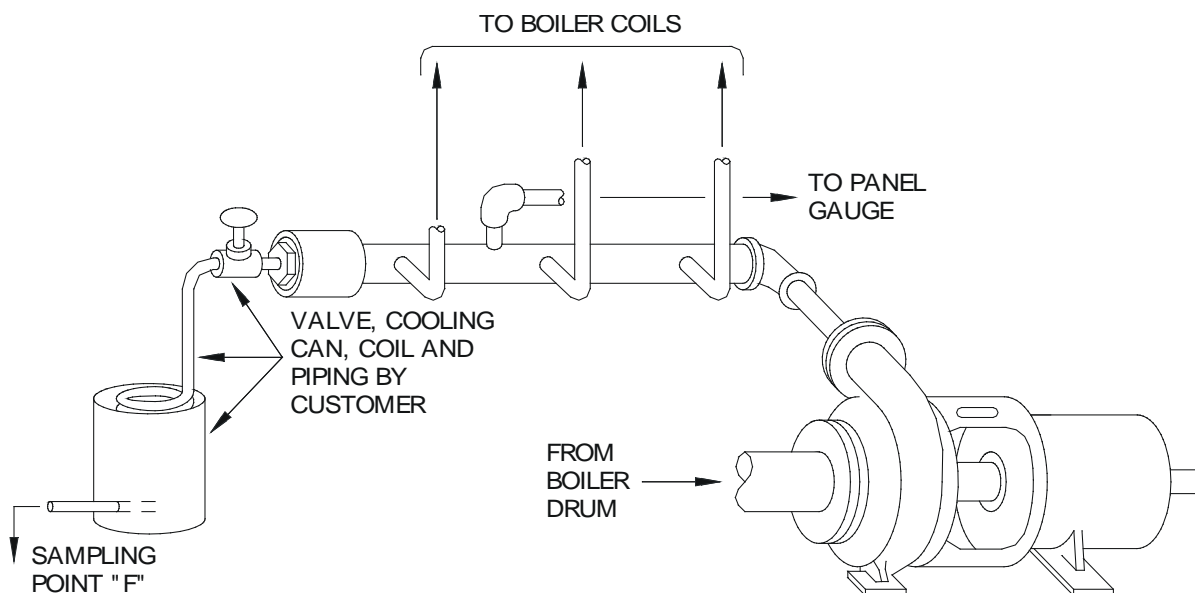

Figure 18. Typical Pump Piping
- 9.5.3** Water about to enter the boiler coils is the most important water relative to the **boiler**. The program for water treatment must be established or modified based upon an analysis of this water. When obtaining water samples for testing, water from a connection to the boiler circulating pump outlet manifold is the most representative. Sample water may be taken from the water column also. Take the sample before the blowdown period after flushing out the sampling line. A cooling coil must be used to prevent flashing. Figure 18 illustrates typical pump piping for obtaining water samples.